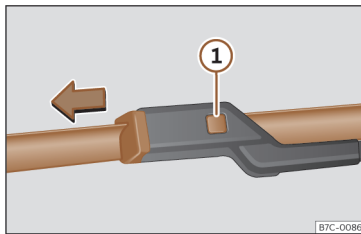

Fig. 46 Changing the windscreen wiper blades
- Press and hold release button»» Fig. 46 ① and pull gently on the wiper blade in the direction of the arrow.